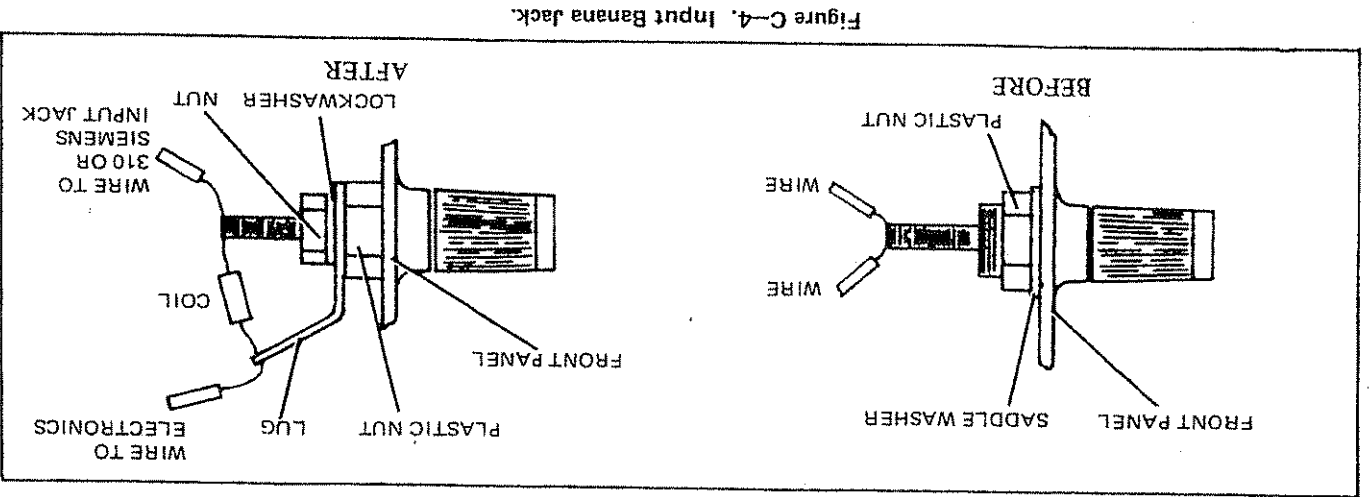

Figure C-4. Input Banana Jack.
- b. Unscrew the plastic mounting nut and remove the flat saddle washer (see Figure C-4). Discard saddle washer.
- c. Reinstall and tighten the plastic mounting nut. Then add the solder lug, lockwasher, and nut (Part No. 2950-0043) in that order to the rear of the banana jack (see Figure C-4).
(see Figure C-4).
- e. Reconnect the wires as shown in Figure C-4.